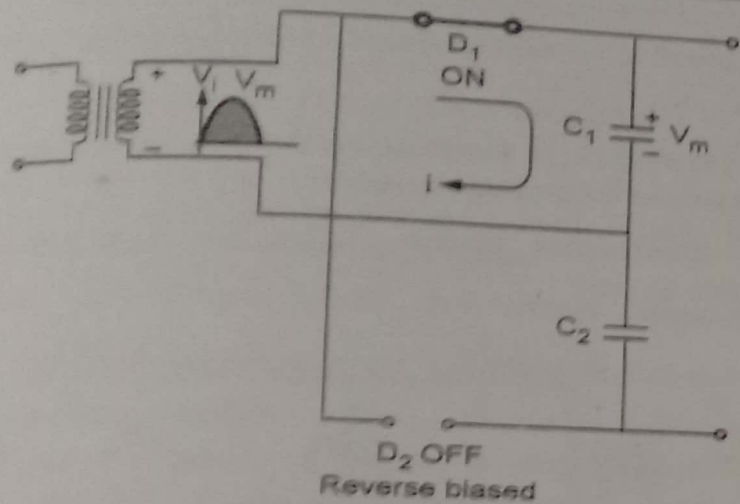

Fig. Q.52.2 Positive half cycle of input
- This is shown in the Fig. Q.52.2.